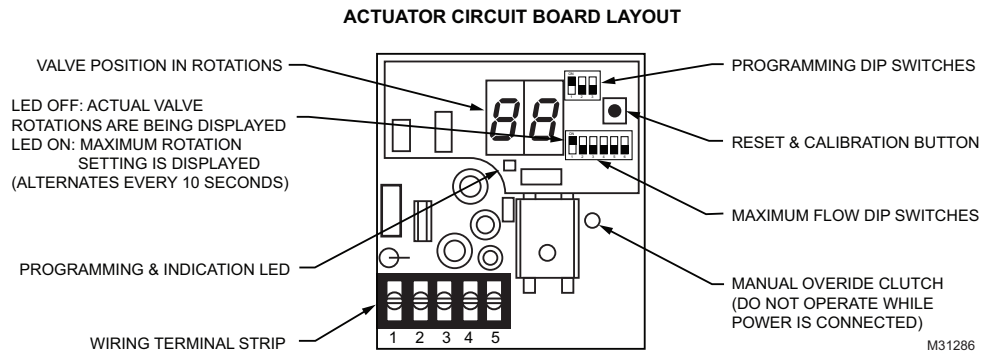

Fig. 4. Actuator circuit board layout.
1. Remove the Actuator Cover from the motor by loosening screw. Safeguard the screw. See Fig. 4.